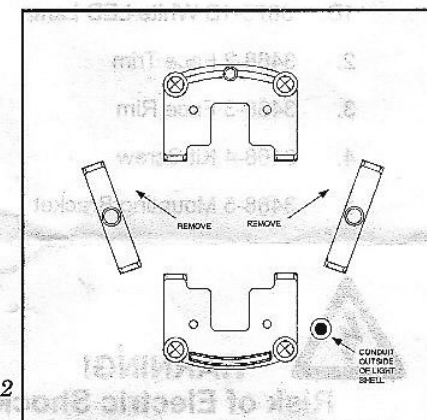

Figure 2
6. After securely fixing bracket to pool wall use a chisel to break bracket at perforations. Remove and discard vertical bracket sections, see **Figure 2**.